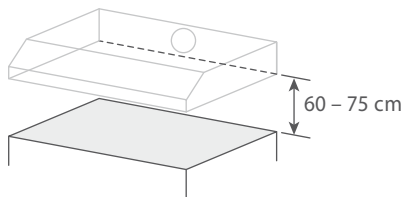

Fig.1 Establishing height of rangehood
- 1 Establish the desired height of the rangehood above the cooking surface according to the 'Installation height requirements' on page 4. Measure this distance from the top of the cooking surface and, using a spirit level, draw a light horizontal line on the wall. Make sure that the line can easily be erased or will be hidden after installation. This is where the bottom of the rangehood will sit (fig.1).